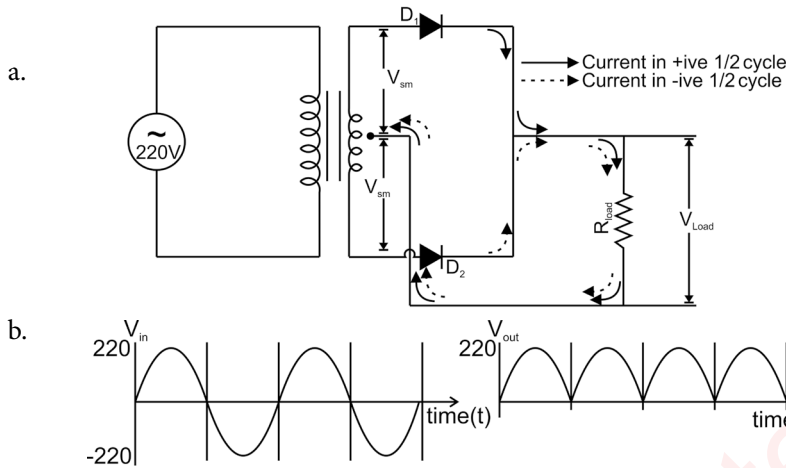

Fig 6.11 Full wave rectifier
In a Half wave rectifier, only one-half cycle is used to convert AC signal to DC signal. If we use a center tapped step down transformer and two diodes then a full wave of AC can be rectified. In a full wave rectifier, the AC signal is given to a circuit with two diodes and one load resistance (R). In the first Half cycle, the first diode is in forward bias and the second diode is in reverse bias. The situation will be reversed In next half cycle. The voltage will appear across resistance R in both half cycles. Fig 6.11 (a) Shows the circuit of full wave rectifiers. The input and out waveform is also displayed in Fig 6.11(b). The voltage appearing on the R is variable DC voltage and further given to filter circuits to convert variable DC into constant DC.